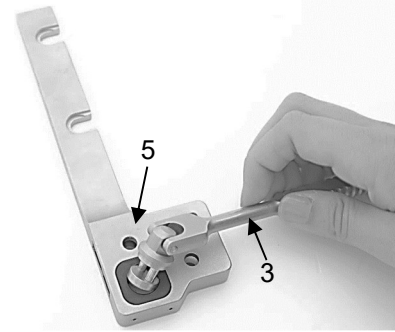

Fig. 7
First insert the drive lever (3) into the recess provided for this purpose in the cage (5) (Fig. 7).